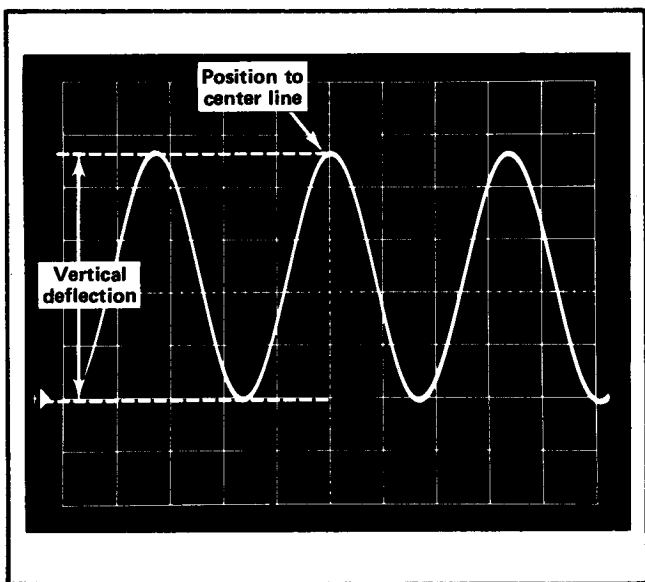

Fig. 2-5. Measuring peak-to-peak voltage of a waveform.
5. Turn the vertical POSITION control so the lower portion of the waveform coincides with one of the graticule lines below the center horizontal line, and the top of the waveform is within the viewing area. Move the display with the horizontal position control, so one of the upper peaks lies near the center vertical line (see Fig. 2-5).